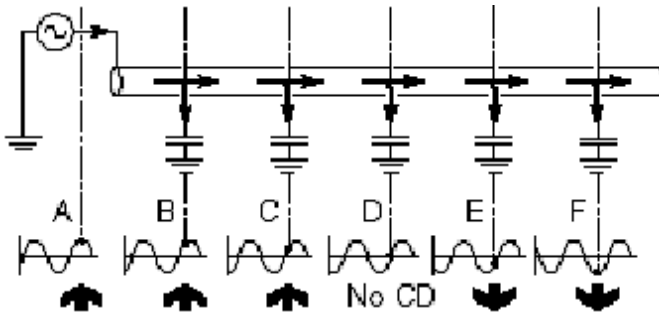

Figure 12.2: CD reset
Figure 12.2 illustrates a buried line with significant capacitance to ground. It illustrates the gradual phase-shift that occurs along the line. The diagram shows a reference point on each waveform. At first, the reference point occurs right on the peak of a positive half cycle (A). It gradually moves towards the zero crossing point (D) and ends up on the peak of a negative half cycle (F). The direction has shifted from forwards to backwards. At the intermediate point (D) the current flow cannot be determined. At this point the CD arrows on the RD8000 receiver will flash on and off. In the example shown in the illustration, by returning to (C) which is the last point at which a CD reading was achieved, and performing a CD reset, the response at (C) will be equivalent to that of (A).